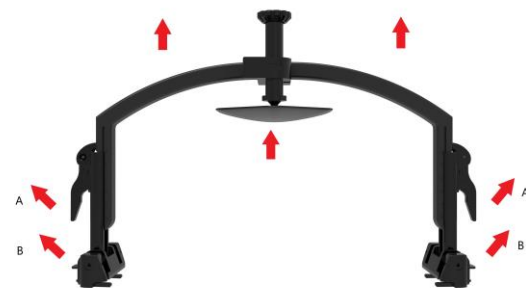

Figure 1
- Make sure the device is securely locked onto the SBRT compatible AIO 3.0 base plate ref. 38013 on both sides.
- These pressure system bridges can only be used with the SBRT compatible AIO 3.0 base plate ref. 38013. These bridges are not compatible with other SBRT base plates.
1. Position the arch in the highest position by opening the locks (A) on both sides and moving the arch vertically upwards to position 5. Close the locks again. (Figure 1)